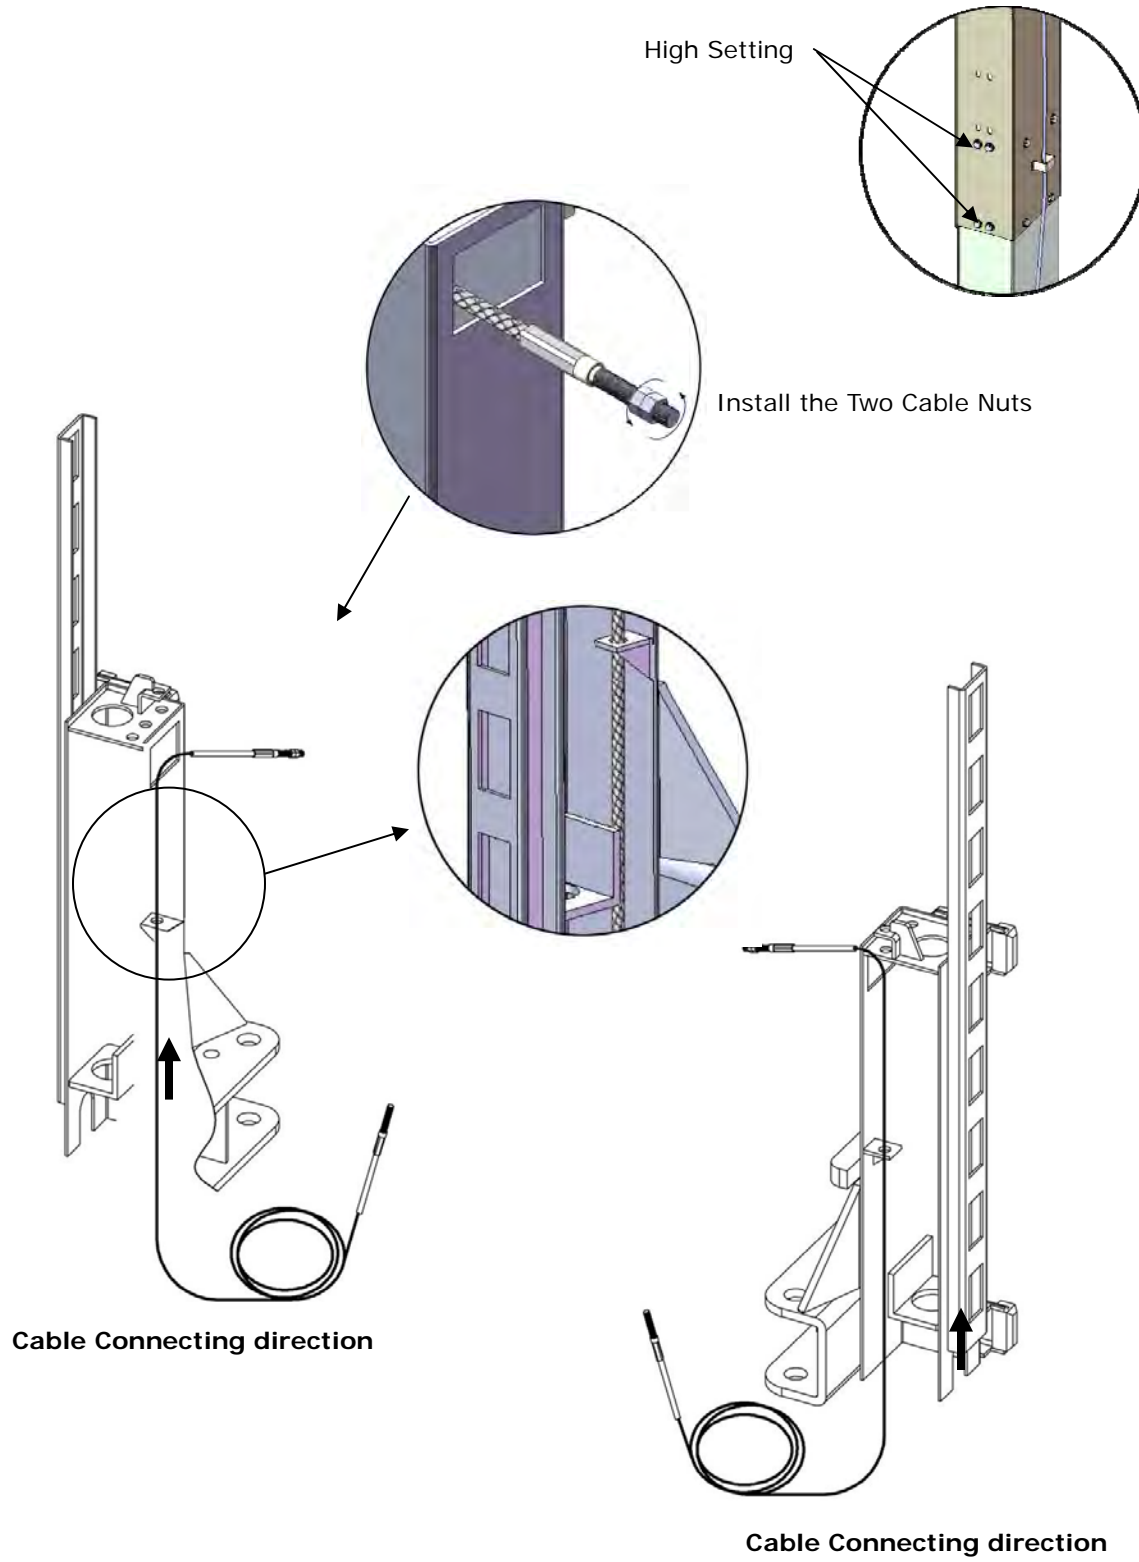

Fig. 24
b. For the high setting cable connection (See Fig. 24).